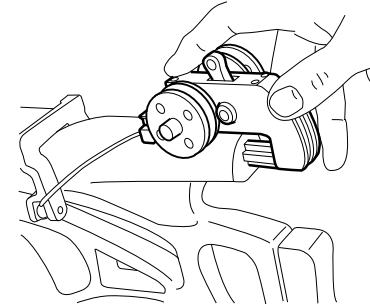

Figure 16
④ Using Cocking Winch
- ④.1 Ensure the crossbow safety is in the “Fire” position.
- ④.2 Remove the crank handle
- ④.3 Mount the cocking winch to the stock by inserting the “+” shaped mounting rod into the corresponding slot located in the rear of the stock comb (See Figure 16)